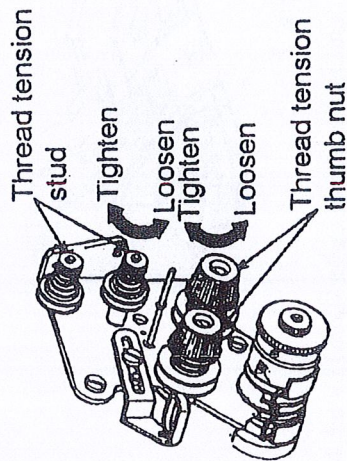

Fig. 10
14. Adjustment of upper thread (Fig.10):